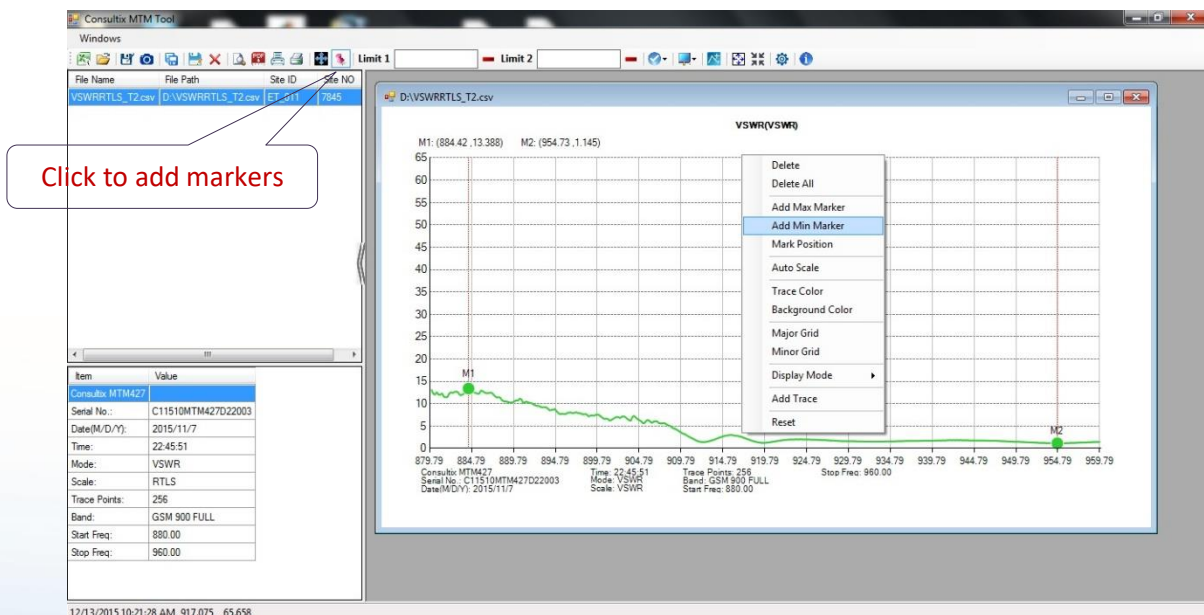

Figure 5, Adding Markers
1. Add markers: from **Function Toolbar**, click “**Edit Marker**” button, and double click everywhere on the trace to place your markers in addition to adding maximum and minimum markers by right click the marker and choose “**Add Max Marker**” and “**Add Min Marker**” as shown in figure 5.